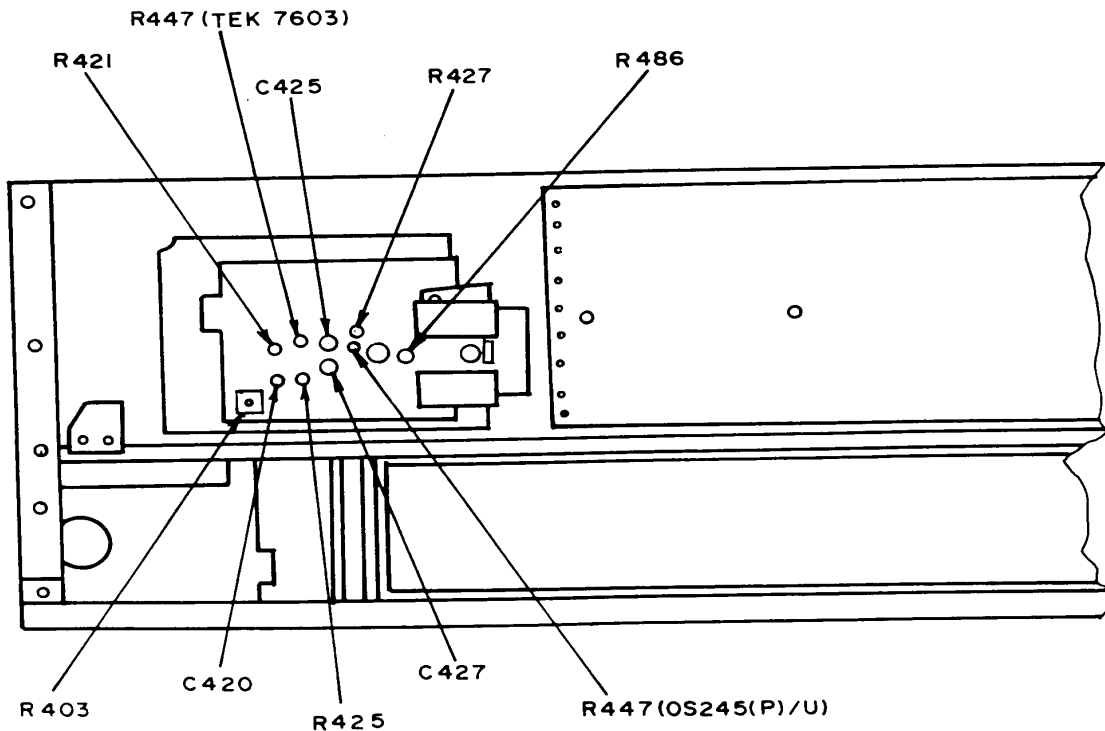

Figure 2. Test instrument - left view.
- (1) Adjust vertical centering R403 (fig. 2) to position trace to center horizontal graticule line (R).
- (2) Adjust bias potentiometer R486 (fig. 2) for maximum deflection between traces (R).
- (3) Adjust R447 (fig. 2) for 6 divisions of deflection over the center 7 traces (R).
Adjustments (fig. 2) (R)	Area of pulse most affected